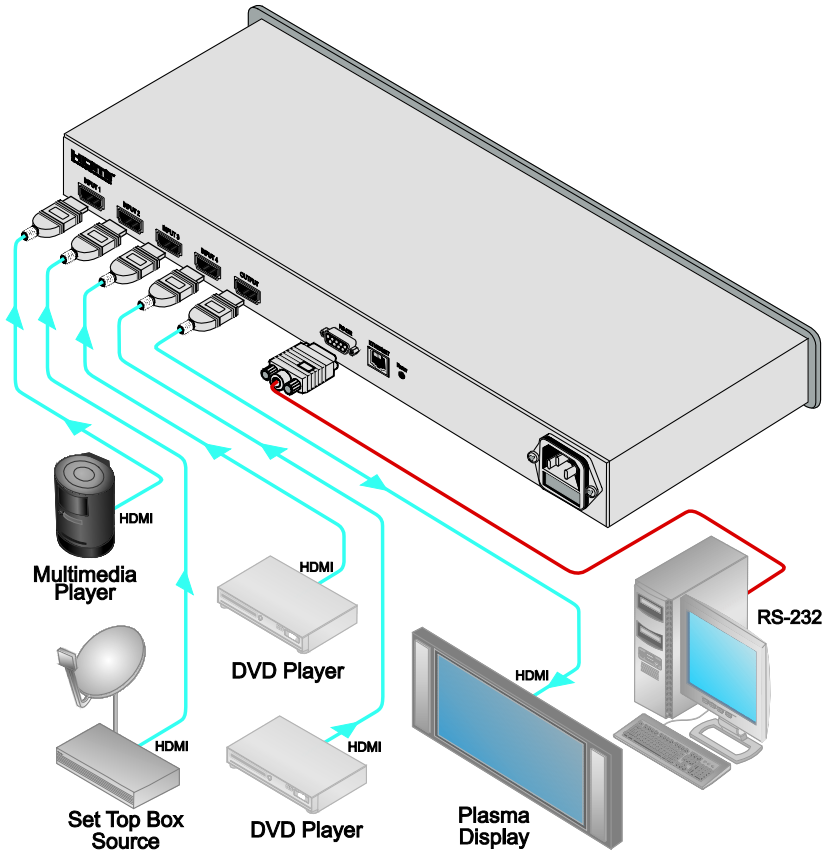

Figure 2: Connecting a VS-41H 4x1 HDMI Switcher
To connect the **VS-41H 4x1 HDMI Switcher** (as illustrated in Figure 2), do the following¹:
5. Connect the power connector to the mains electricity (not shown in Figure 2).